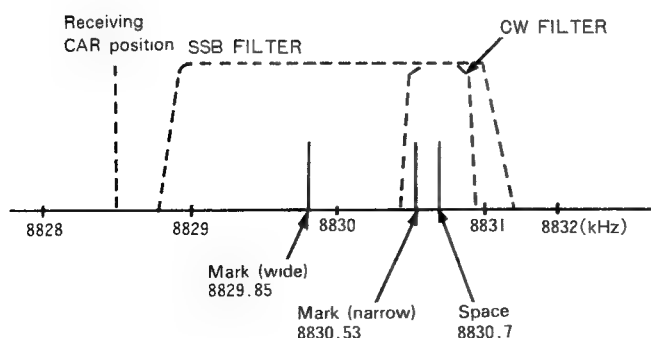
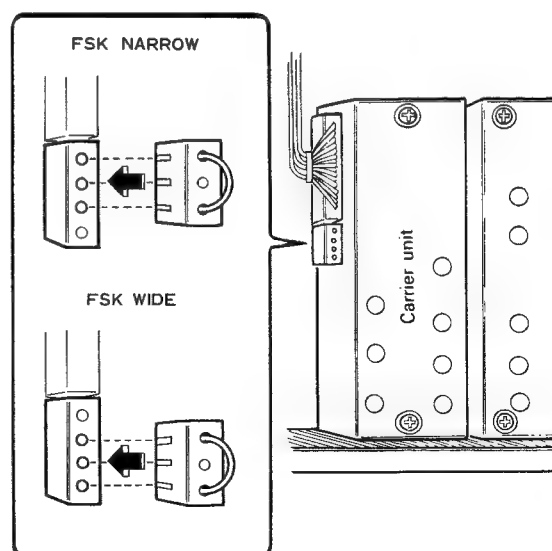

Fig. 10 RTTY frequency
Fig. 11 Switching of FSK, WIDE-NARROW
**Fig. 10** shows the relationship between the transmitting and receiving frequencies used in TS-820. Although the frequency deviation in the FSK circuit has been set to the NARROW side in our factory, it can also be set to the WIDE side by switching the connector as shown in **Fig. 11**. When making FSK operation in the WIDE side, turn the IF SHIFT knob counterclockwise by approx. 1.2 kHz until balance between mark signal and space signal can be obtained during receiving.